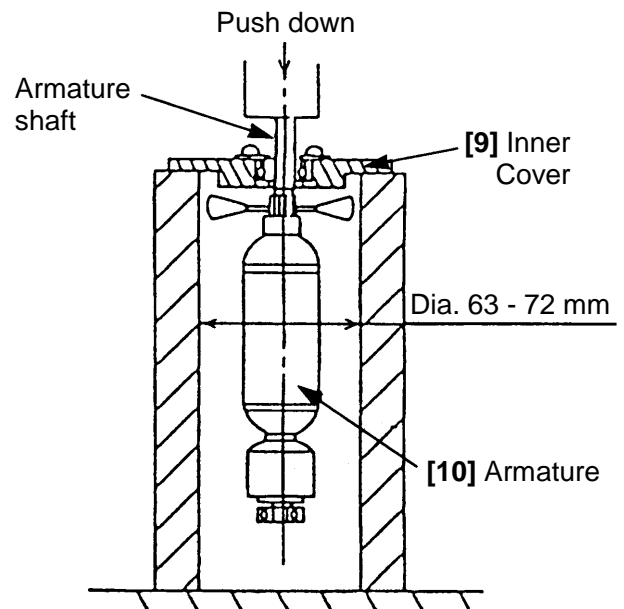

Fig. 4
- (1) Loosen the M5 x 20 Machine Screw **[26]** and remove Wheel Guard (A) Ass'y **[28]**.
- (2) Remove the Brush Caps **[41]**, and take out the Carbon Brushes **[42]**.
- (3) Loosen the D5 x 25 Tapping Screws **[1]**, and remove the Gear Cover Ass'y **[4]**. Separate the Inner Cover **[9]** from the Housing Ass'y **[37]** with a slotted-head screwdriver, and remove the Inner Cover **[9]** together with the Armature **[10]**.
- (4) Holding the Armature **[10]**, loosen the M7 Special Nut **[5]** with a wrench, and remove the Pinion **[6]**.
- (5) Support the Inner Cover **[9]** with a tubular jig (inner diameter 63 - 72 mm is recommended), and push down on the armature shaft with a hand press to remove the Armature **[10]**. (see Fig. 4)